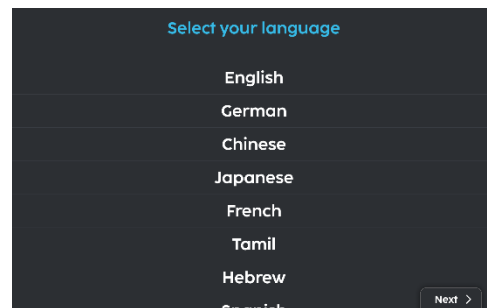

Fig. 2
2. Scroll down and select your language (Fig. 2).